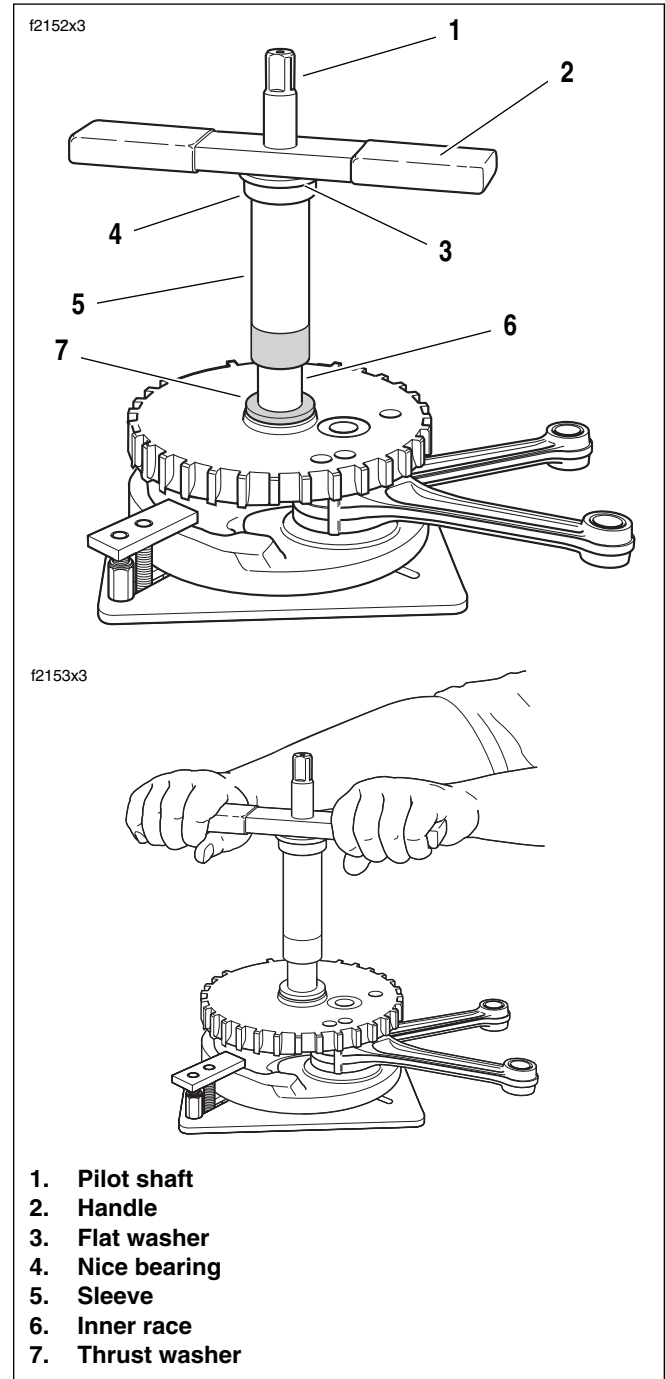

Figure 3-39. Press Inner Race Onto Sprocket Shaft
- a. See Figure 3-39. Thread pilot shaft onto sprocket shaft until contact is made with shoulder.
- e. Thread handle onto pilot shaft. See upper frame of Figure 3-39.
6. Rotate handle of tool in a clockwise direction until bearing inner race bottoms against thrust washer. See lower frame of Figure 3-39.